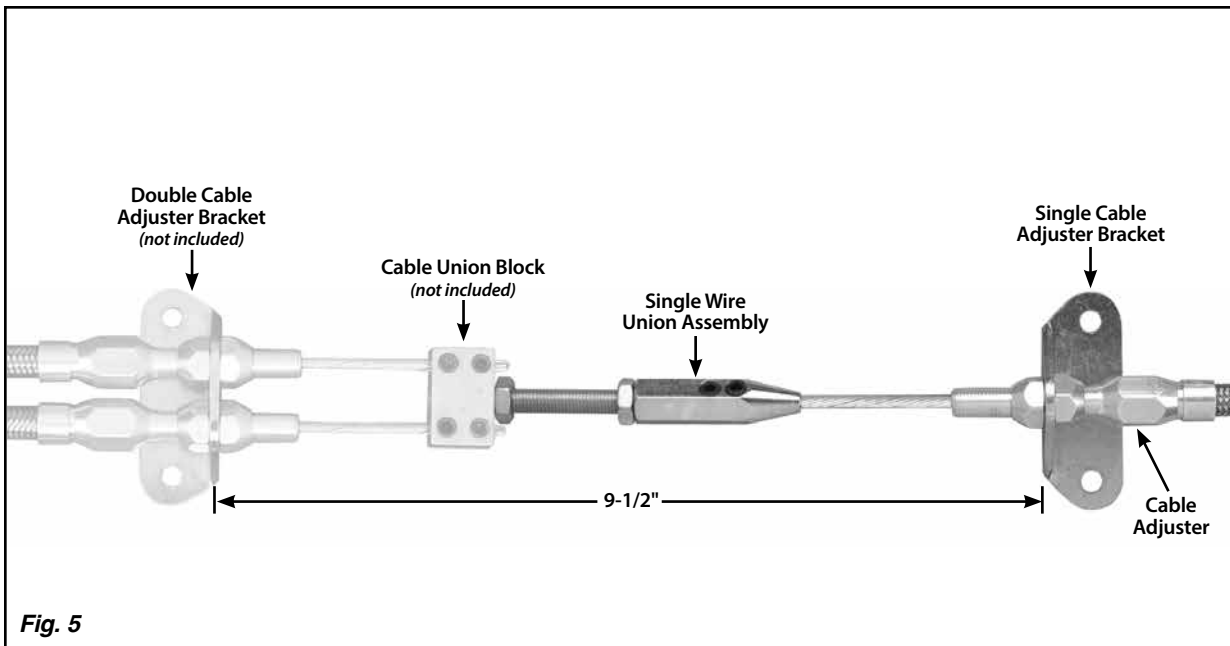

Fig. 5
Step 4: Determine where the single cable adjuster bracket will be mounted. The single cable adjuster bracket must be aligned with the double cable adjuster bracket (not included, comes with the rear Emergency Brake Cables) so the cables are being pulled in a straight line, not at an angle. If you are using Lokar's Universal Emergency Brake Cables on your rear brakes, the single cable adjuster bracket should be mounted approximately 9-1/2" in front of the double cable adjuster bracket as shown in Fig. 5.